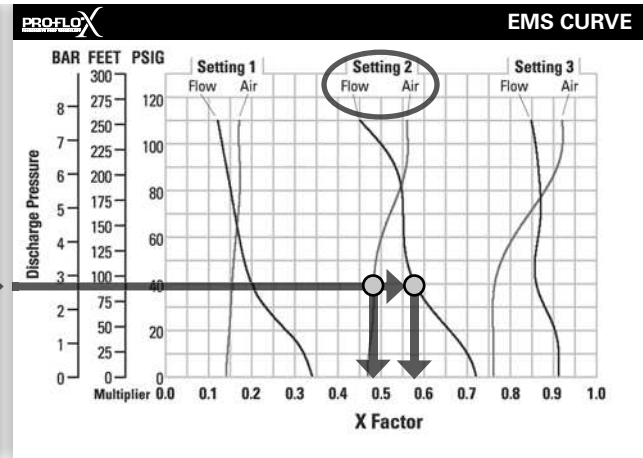

Figure 2
FIGURE 2 When the pressurized diaphragm, diaphragm A, reaches the limit of its discharge stroke, the air valve redirects pressurized air to the back side of diaphragm B. The pressurized air forces diaphragm B away from the center while pulling diaphragm A to the center. Diaphragm B is now on its discharge stroke. Diaphragm B forces the inlet valve ball onto its seat due to the hydraulic forces developed in the liquid chamber and manifold of the pump. These same hydraulic forces lift the discharge valve ball off its seat, while the opposite discharge valve ball is forced onto its seat, forcing fluid to flow through the pump discharge. The movement of diaphragm A toward the center of the pump creates a vacuum within liquid chamber A. Atmospheric pressure forces fluid into the inlet manifold of the pump. The inlet valve ball is forced off its seat allowing the fluid being pumped to fill the liquid chamber.
Step 2: Determining flow and air X Factors. Locate your discharge pressure (40 psig) on the vertical axis of the EMS curve (Figure 2). Follow along the 2.8 bar (40 psig) horizontal line until intersecting both flow and air curves for your desired EMS setting (in this case, setting 2). Mark the points where the EMS curves intersect the horizontal discharge pressure line. After locating your EMS points on the EMS